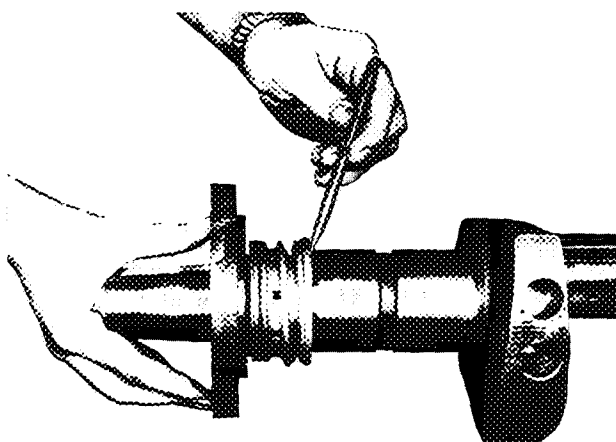

FIG. 32 - INSTALLING NEW SEAL
All 5H120 shaft seals should be replaced by this seal. To make it easier to see how the seal is installed, the crankshaft is shown removed from the compressor in Fig. 32.
**NOTE:** The shaft seal must be tight against the shaft shoulder as shown in Fig. 32.